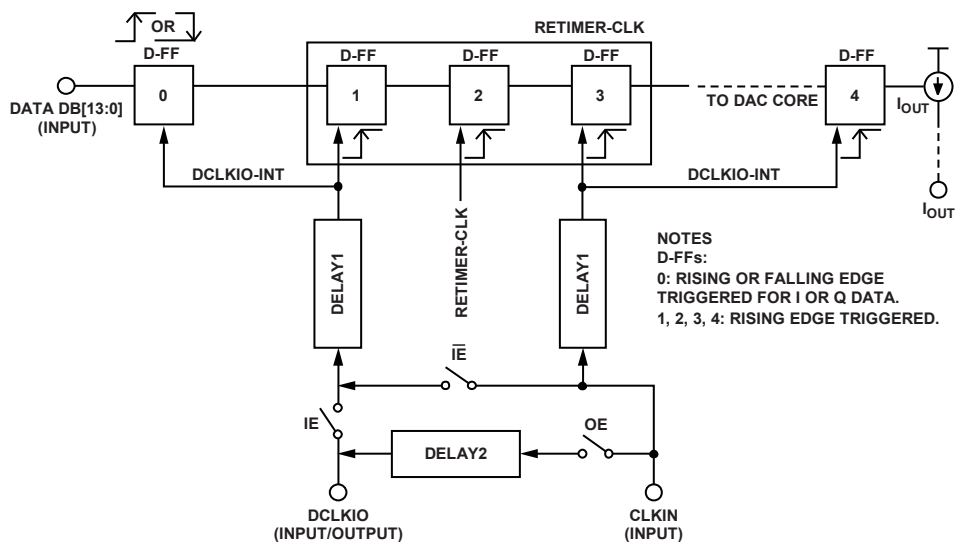

Figure 82. Simplified Diagram of AD9714/AD9715/AD9716/AD9717 Timing
Figure 82 is a simplified diagram of the entire data capture system in the AD9714/AD9715/AD9716/AD9717. The double data rate input data, DB[13:0], is latched at the pads/pins either on the rising edge or the falling edge of the DCLKIO-INT clock, as determined by IRISING, the SPI bit. IFIRST, the SPI bit determines which channel data is latched first (that is, I or Q). The captured data is then retimed to the internal clock (CLKIN-INT) in the retimer block before being sent to the final analog DAC core (D-FF (4)), which controls the current steering output switches. All delay blocks depicted in Figure 82 are noninverting, and any wires without an explicit delay block can be assumed to have no delay for the purpose of understanding.
Only one channel is shown in Figure 82 with the data pads (DB[13:0]) serving as double data rate pads for both channels.